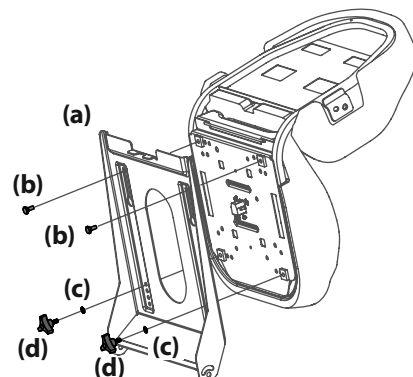

Figure 4
- a. For a Knob Adjust seat insert bolts (b) in the rear holes and lock washer (c) and knobs (d) in the front. Tighten securely. See Figure 4.